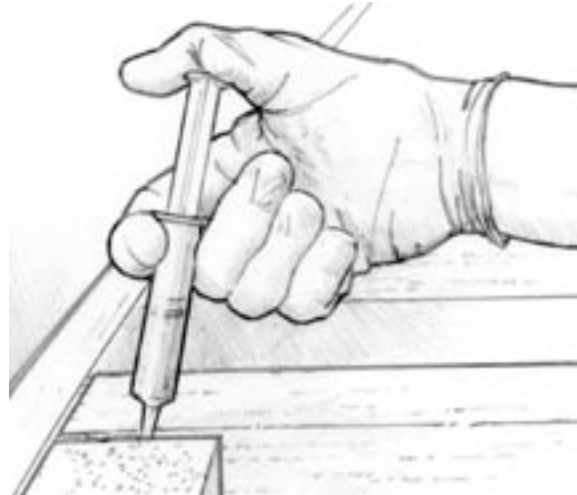

Figure 5-8 Inject epoxy as far as possible into the joint.
4. Apply thickened epoxy to the contact area of the joint. Use a syringe to inject an epoxy/406 filler mix to the middle of the joint (*Figure 5-8*). A small plastic tube or straw taped to the spout of the syringe will extend the reach of the syringe into a tight area. Inject enough of the thickened mix so that a small amount will squeeze out when the joint is clamped together.